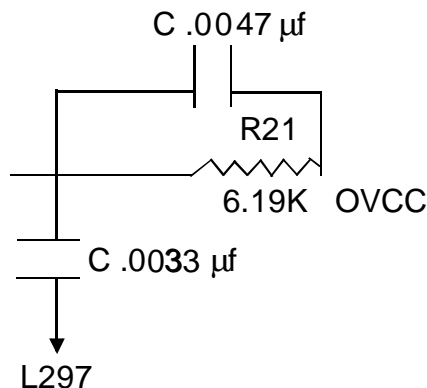

Figure 1. Motor Driver Circuit
The result of these two changes is a reduction of the harmonic frequencies causing the noise. See Figure 1.
- Place a .0047 μ f capacitor in parallel with R21, a 6.19K ohm resistor. See **Figure 1**.